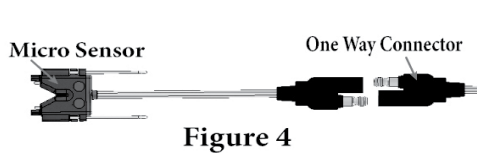

Figure 4
3. Couple the micro sensor and the AG-3180E secondary pan sensor using the one-way connector (fig. 4).